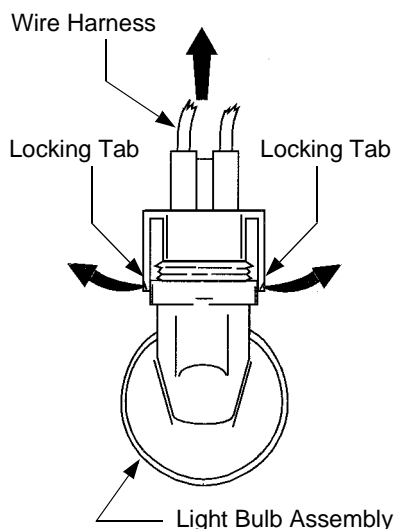

Figure 17
- Pull both locking tabs away from light bulb and pull wire harness away. See Figure 17.